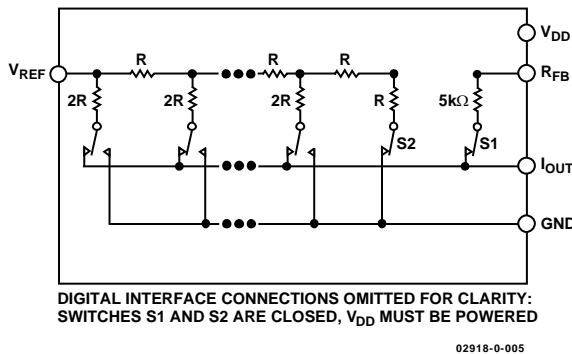

Figure 17. Equivalent R-2R DAC Circuit
The DAC architecture uses a current-steering R-2R ladder design. Figure 17 shows the typical equivalent DAC. The DAC contains a matching feedback resistor for use with an external I-to-V converter amplifier. The R_{FB} pin is connected to the output of the external amplifier. The I_{OUT} terminal is connected to the inverting input of the external amplifier. These DACs are designed to operate with both negative or positive reference voltages. The V_{DD} power pin is used only by the logic to drive the DAC switches on and off. Note that a matching switch is used in series with the internal 5 kΩ feedback resistor. If users attempt to measure the R_{FB} value, power must be applied to V_{DD} to achieve continuity. The V_{REF} input voltage and the digital data (D) loaded into the corresponding DAC register, according to Equation 1 and Equation 2, determine the DAC output voltage.